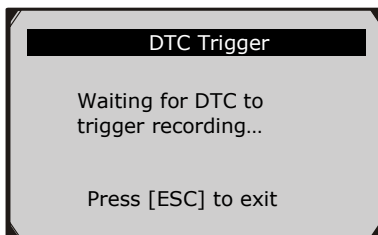

Figure 5.25
- If **DTC Trigger** is selected the following screen shows: (Figure 5.25)